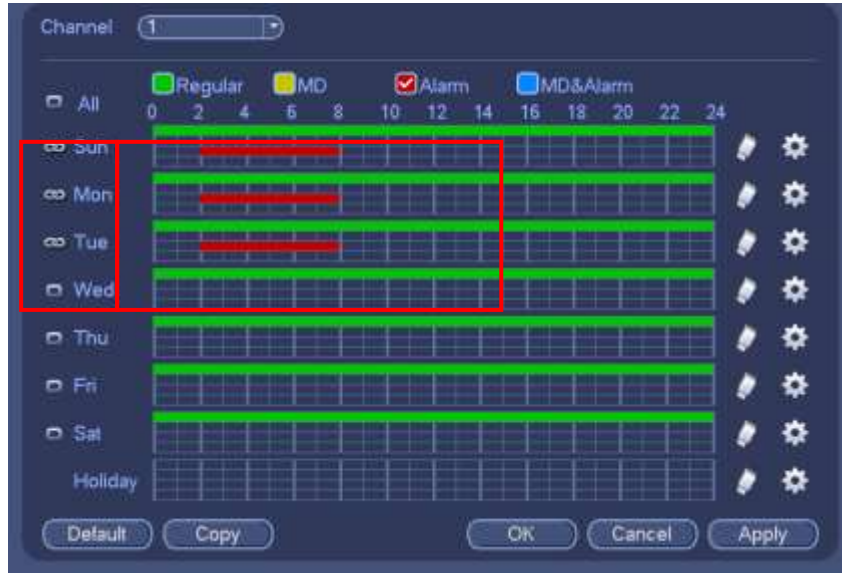

Figure 4-150
- ✧ Please draw manually to set record period. There are six periods in one day. See Figure 4-150.